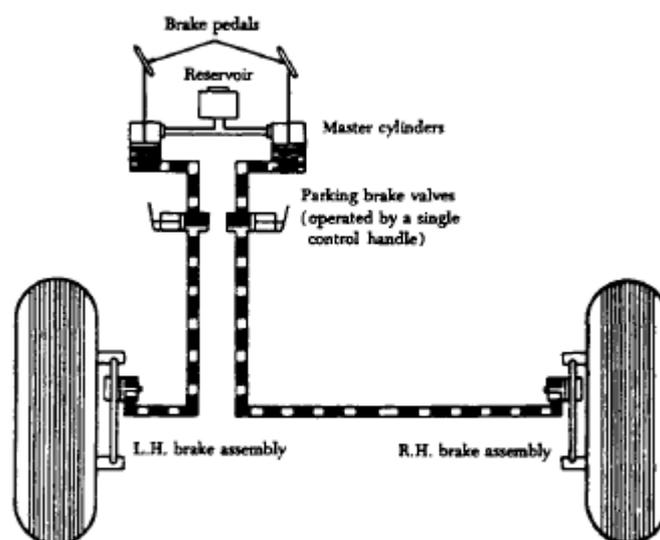

FIGURE 9-25. Typical independent brake system.
3. **The system is composed** of a reservoir, one or two master cylinders, mechanical linkage which connects each master cylinder with its corresponding brake pedal, connecting fluid lines, and a brake assembly in each main landing gear wheel (figure 9-25).